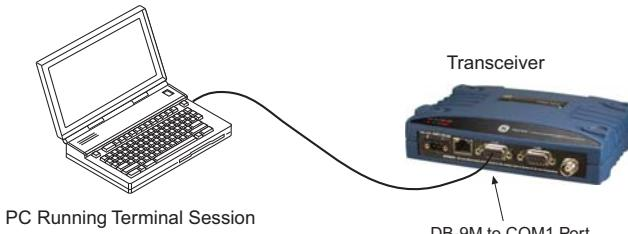

Figure 5. Setup for PC Configuration
5. **Set the radio's configuration.** Connect a PC to the radio's COM1 port as shown in **Figure 5**. A straight-thru cable may be used for this connection.